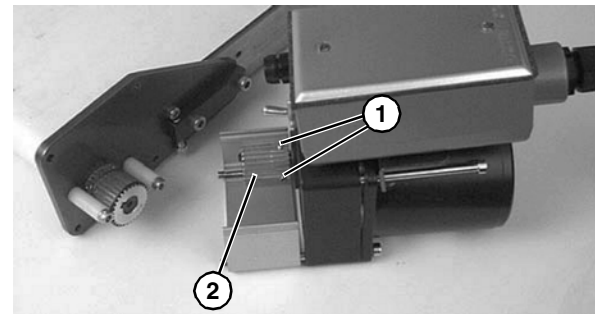

Figure 59
- Loosen set screws (**Figure 59, item 1**) and remove drive pulley (**Figure 59, item 2**).
- Replace drive pulley (**Figure 59, item 2**) on new gearmotor and tighten set screws (**Figure 59, item 1**) to 33 in-lb (3.7 Nm).